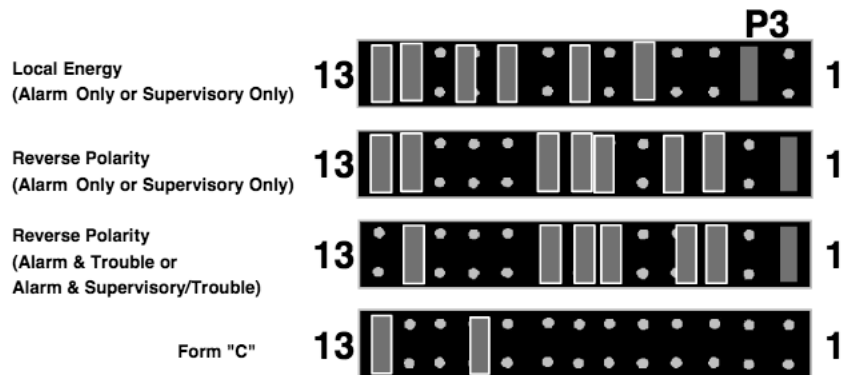

Figure 2. P3 Connector
Each city circuit card has two different circuits. Circuit 1 provides Local Energy, Reverse Polarity City, and Form "C" reporting. When configuring Circuit 1, use the table below for Connectors P2 & P4 jumper settings and Figure 2 for Connector P3 jumper settings. Circuit 2 provides a Form "C" contact that operates on system Trouble (see Note 4). For additional information, read the following notes and refer to the 4005 Field Wiring Diagram (841-990).
1. The city circuit card supports three common varieties of city connections: Reverse Polarity, Local Energy, and Form "C". Select the type of city circuit by configuring the jumpers on Connector P3 (see Figure 2). Shunt city connections are not supported by the 4005 city circuit card. They are possible in a 4005 FACP using an external relay controlled by an 8-Point I/O driver output. Refer to the 4005 Field Wiring Diagram (841-990) for details.